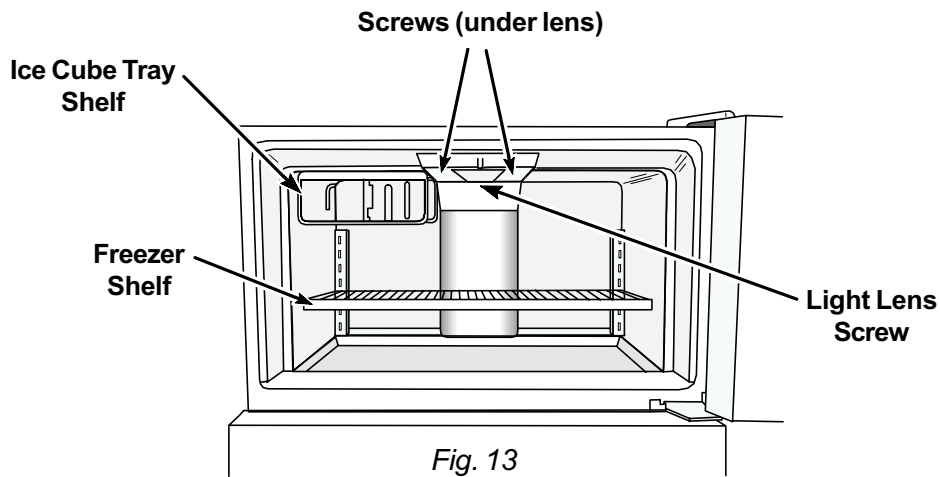

Fig. 13
1. Remove freezer shelf and two (2) screws securing each shelf bracket to the back wall of the freezer compartment. (Fig. 13)